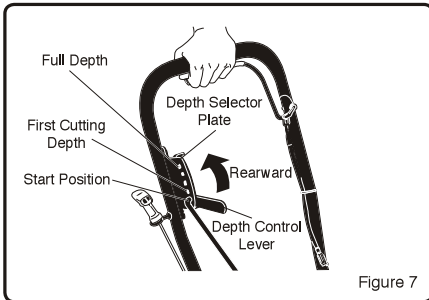

Figure 7
- cutting depth (See Figure 7), and check that the frame of the edger is level.
Move the Depth Control Lever rearward to increase the depth. (See Figure 7)
3. Put the depth control lever in the starting position (See Figure 7). This will slightly tilt the frame and engine toward the rear.